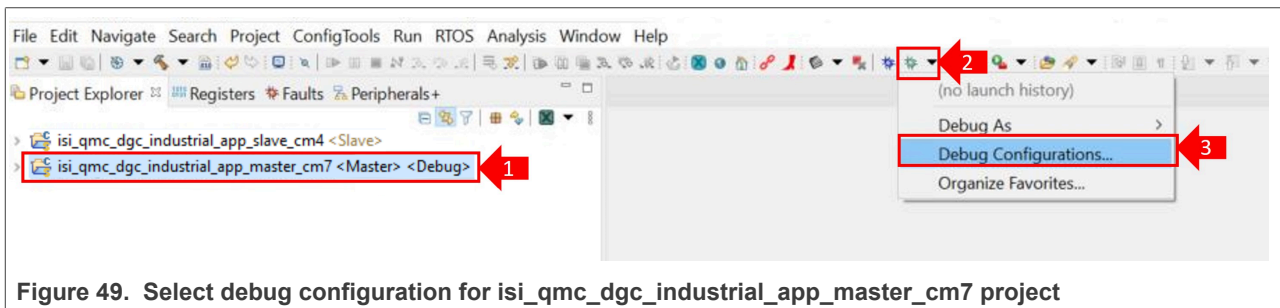

Figure 49. Select debug configuration for `isi_qmc_dgc_industrial_app_master_cm7` project
4. Start debugging the `isi_qmc_dgc_industrial_app_master_cm7` project as shown in Figure 49: